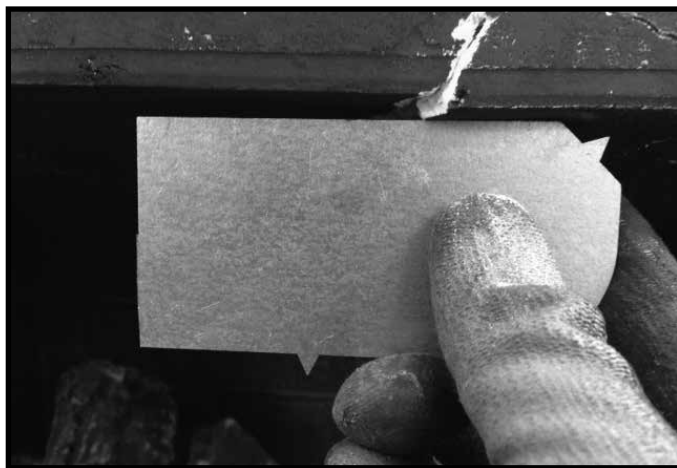

Figure 4.2. Surface plane of firebox is comprised and should be replaced.
- Cracks compromising the surface plane of the firebox. See Figure 4.2.